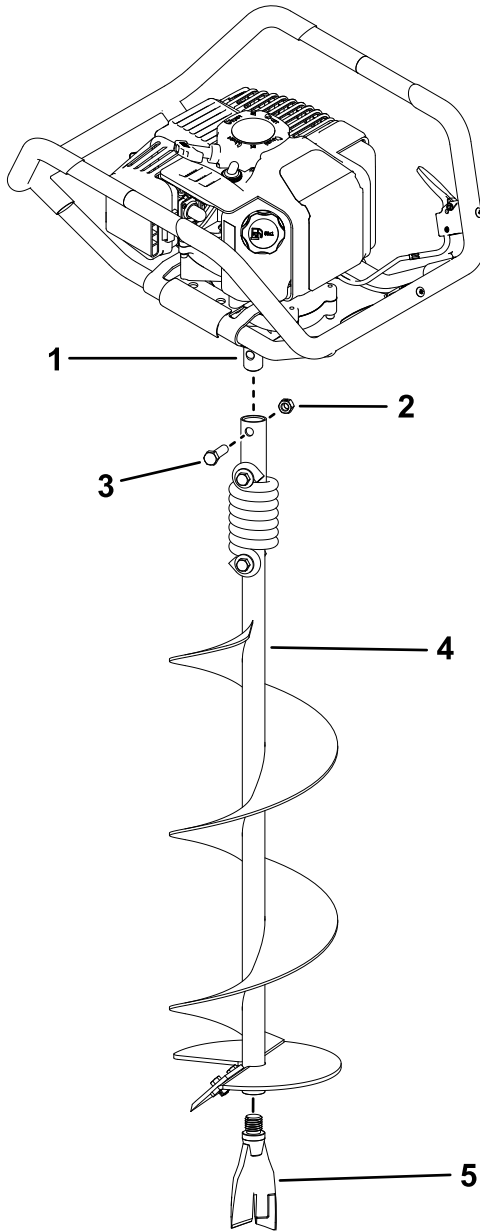

Figure 3
1. Insert the output shaft on the powerhead into the open end of the auger (Figure 3).
2. Secure the powerhead to the auger using the bolt (3/8 x 1-1/2 inches) and locknut (3/8 inch) as shown in Figure 3.
3. Secure the fishtail point to the auger (Figure 3).